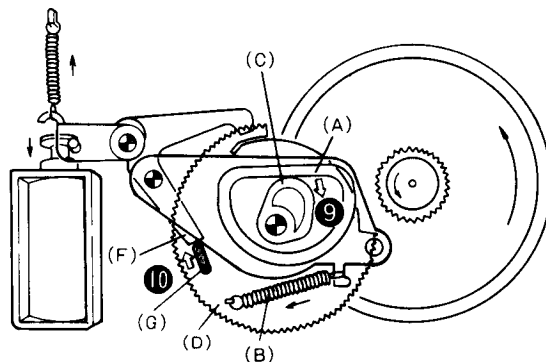
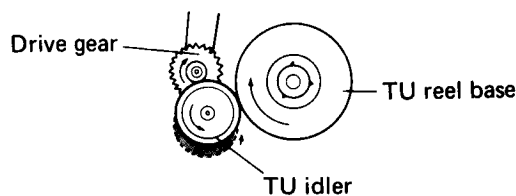

Fig. 3-9 STOP → PLAY operation 3
Fig. 3-10 Generation of take-up torque
(see Fig. 3-9)
As can be seen in Fig. 3-9, the head base drive pin of operating lever (A) rises during playback mode. This pin forces the head base up through the action of the HB drive spring. The pinch presser spring is also lifted at the same time, forcing the pinch roller into close contact with the capstan. Furthermore, the brake plate is lifted to release the reel brake. Pressure is also applied to the idler arm, resulting in the TU idler transmitting drive gear rotation to the TU reel base (the drive gear being belt-driven by the capstan motor). (see Fig. 3-10).